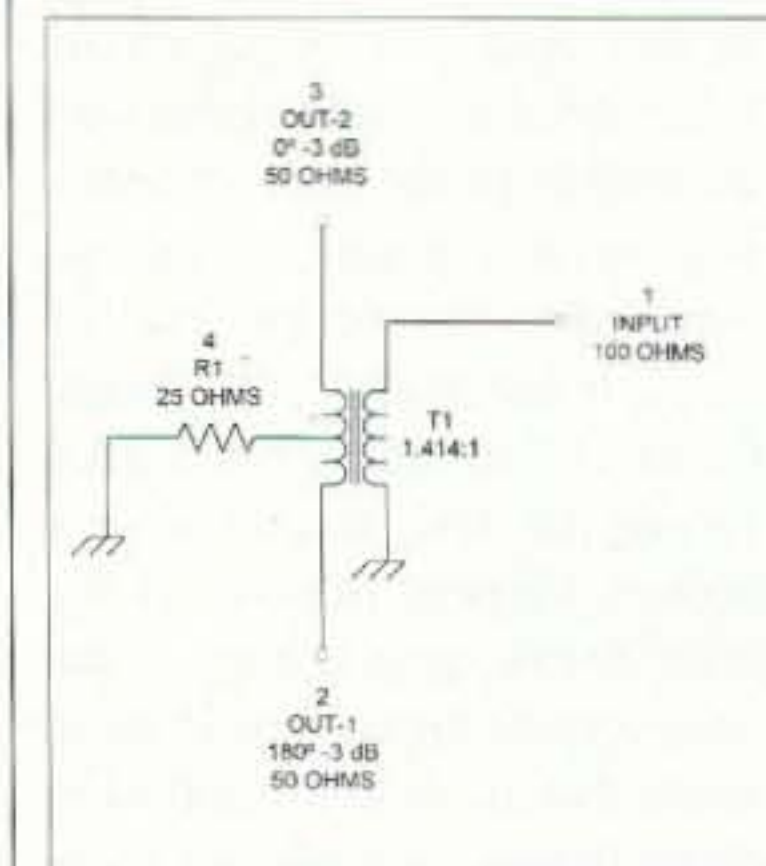

Fig. 2. Combiner/splitter.
The combiner/splitter shown in Fig. 2 is designed to 50-ohm systems, so the tap is terminated in a 25-ohm noninductive resistor. The input is the non-tapped winding. In order to reduce the 100-ohm impedance that one would expect from the previous case, where the turns ratio is 1:1, the turns ratio is adjusted to 1.414:1, although in practice a 1.5:1 ratio is normally used. This transforms the impedance to close to 50 ohms.
**Fig. 2.** (a) Well-known three-way switching configuration. (b) Four-way switching configuration allowing On/Off control from three distinct locations. (c) Four-way switching configuration allowing On/Off control from four, five, six or more distinct locations. Note: "Travelers" are defined as conductors between switches.
**From Jim Kocsis WA9PYH:** How to control just about anything that you'd like to turn on and off, from as many locations as you can imagine: "If you need to control a circuit from several different locations, then this may be just the thing you've been looking for! Using two SPDT switches to control a circuit from two distinctive locations is no big secret ... so-called three-way circuit switching has been used for years in the electrical trade and it's likely that you now have one or two lighting circuits in your home controlled by three-way electrical switches. Fig. 2(a) shows how the circuit is wired, and of course it's used to turn the same lights on or off from two different places. But what if you want to have more than two different control locations?"
"Electricians use four-way switches (DPDT switches that are crosswired internally so that only four of the six terminals are brought outside) to accomplish just that task. Fig. 2(b) shows
"Now take a look at Fig. 2(c). Here we see two SPDT three-way switches and two DPDT crosswired four-way switches. This combination allows us to control our circuit from any of four distinct locations, again, regardless of what position any of the switches is left in at any of the other locations. In fact, just by adding more DPDT crosswired four-way switches, you can control the circuit from as many positions as you wish (just remember that you need to end up with the SPDT four-way switches at each end of the circuit as shown).
"In addition to using this scheme to control a lighting circuit, you can use it to turn on or off anything you'd like, such as a whole-house speaker audio feed from your ham shack! Just use miniature SPDT and DPDT toggle switches, capable of handling the voltage and current of the circuit that you wish to control, and wired as shown in Fig. 2(c). Of course, if you're controlling a 120 volt AC circuit, use only UL-approved three-way and four-way electrical power switches and wiring specifically manufactured for that purpose."
Why are they called three-way switches when they are installed in two different locations? Only Edison knows for sure, but the best answer is that "three-way" refers to three different modes of operation. In Fig. 2(a), the lamp can be turned on and off from SW-1, on and off from SW-2, or on from one switch and off from the other—three distinct ways that the circuit can operate.